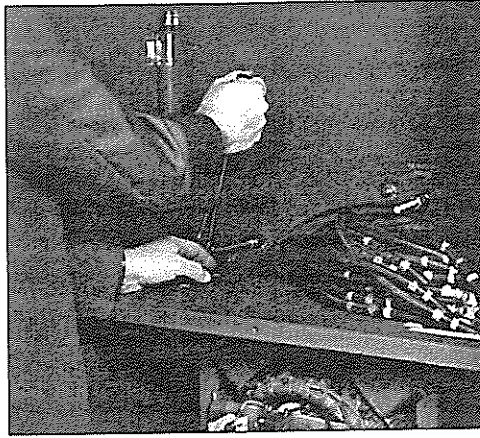

Figure 6-6
3. Remove bolts holding conduit box in place (figure 6-6).